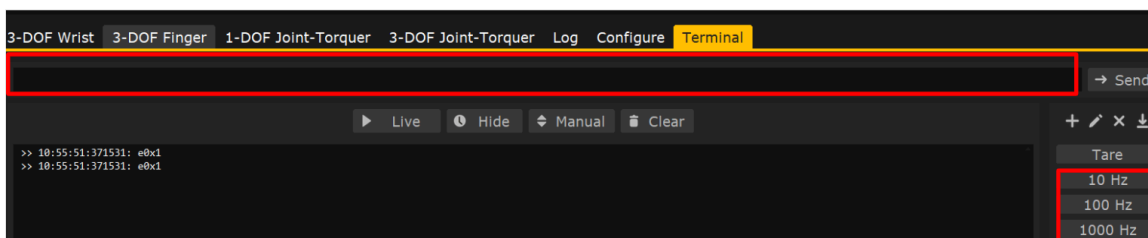

Figure 6: Terminal bar used to send commands to the connected device
- To set a register value, type <SxxVVVV> in the bar shown in Figure 6 below and press Enter or the click “Send” button. Note that ‘xx’ is the ASCII ID of the register of interest (these will be provided throughout the document) and ‘VVVV’ is the value to be set.
- To read a register value, type <Gxx> in the bar shown in Figure 6 and press Enter or the “Send” button. Note that ‘xx’ is the ASCII ID of the register of interest (these will be provided throughout the document).
- Type `<SDRxx>` in the bar shown in Figure 6, where ‘xx’ is the desired sampling rate in Hz.
- The command buttons shown on the right side of Figure 6 can also be clicked to set the sampling rate to either 10, 100 or 1000 Hz. Additional command buttons can also be added by clicking on the “+” sign.
- Type `<SDM2>` in the bar shown in Figure 6.
- Type `<CS>` in the bar shown in Figure 6.